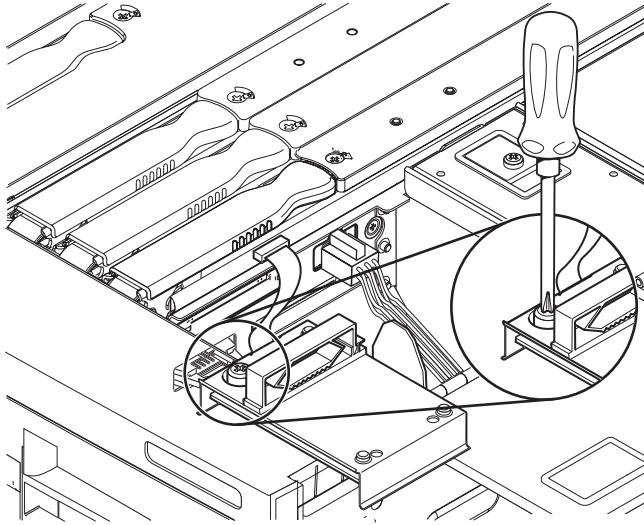

FIGURE 5-23 Loosening the SCC Reader Captive Screw
10. Loosen the captive screw securing the SCC reader (FIGURE 5-23).
9. **Tighten the captive screw (FIGURE 5-23).**